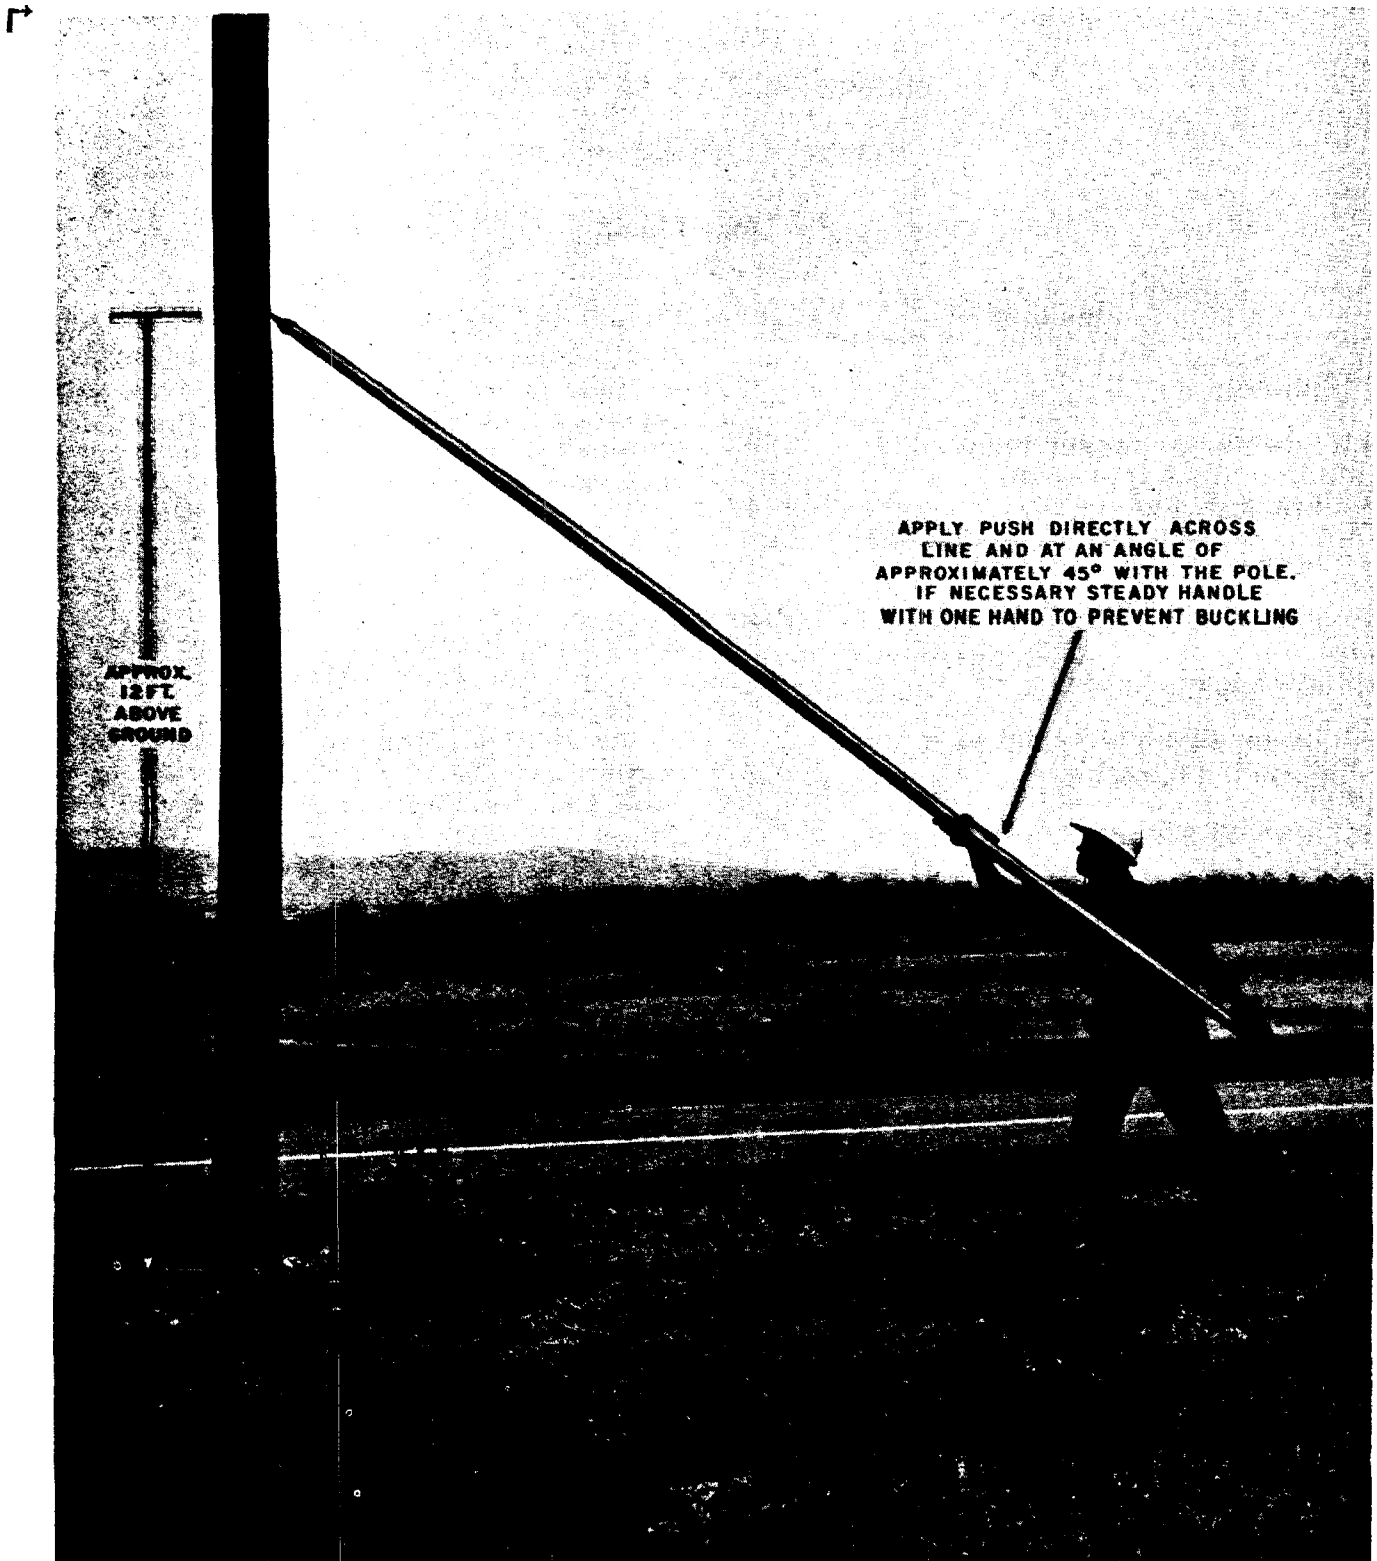

Fig. 1 — Pike Pole Test
3.01 The pike pole test is applied by making a vigorous effort to rock the pole back and forth in a direction at right angles to that of the line by pushing the pole with a 12-foot or longer pike pole. If practicable, the pike pole should be held at an angle of about 45° ($\frac{\text{Lead}}{\text{Height}}=1$) with the pole, as shown in Fig. 1. If the pole cracks or breaks, the test should be discontinued immediately and the pole should be regarded as unsafe for climbing. The pole should not be rocked so hard as to cause the wires to swing together and thus introduce trouble in the circuits.